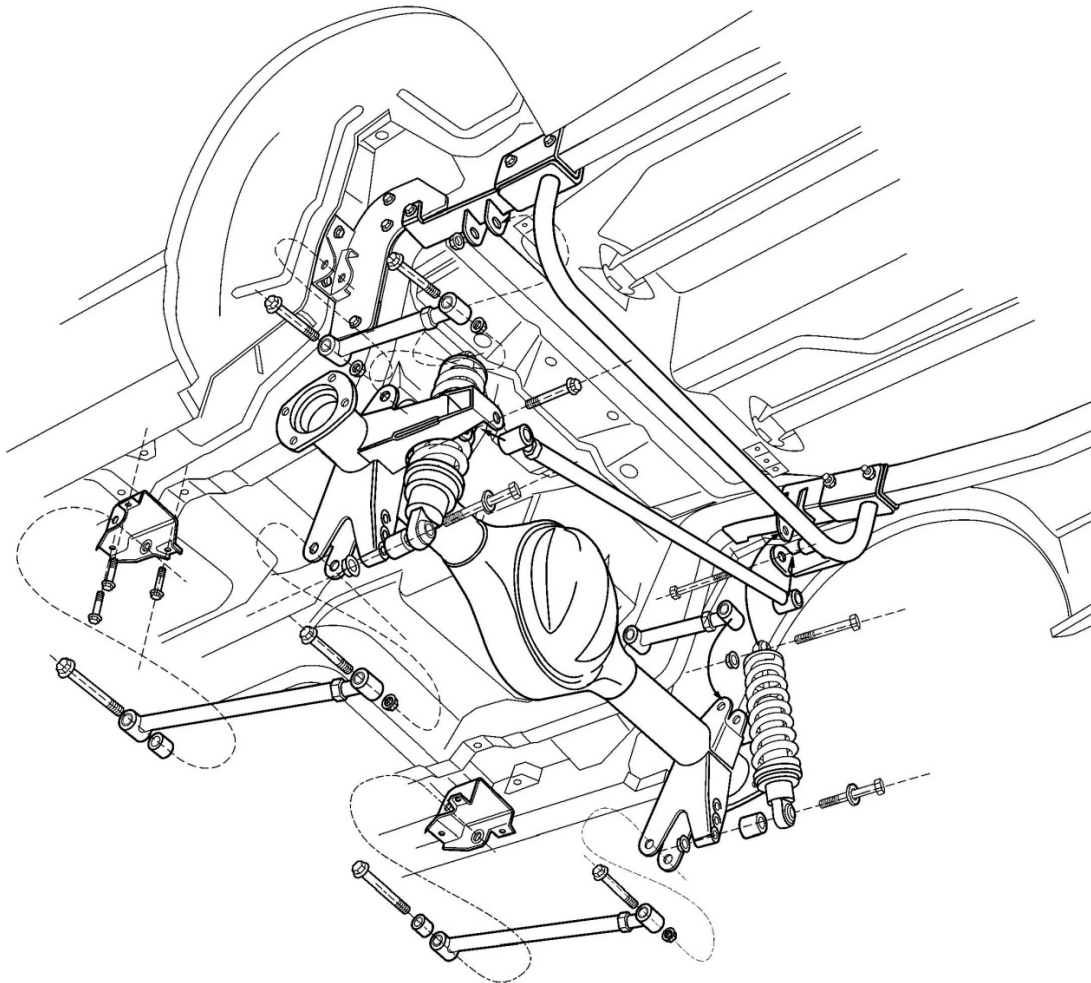

Figure 4- Rear Axle and Panhard bar Installation
- 6.) Position the rear axle housing in place and install the links into the brackets on the housing. Install the 5/8-18 bolts and nuts hand tight. Assemble the coil springs onto the shock assemblies and install them into the upper mounts using the 5/8-18 x 2-3/4 bolts and nuts, and onto the housing using the 5/8-11 x 7 bolts, spacers and nuts supplied, and tighten down. Now install the Panhard Bar using the 1/2-13 bolts and nuts supplied, (keep it hand tight so the Panhard can be adjusted) as shown in **Figure 4**.